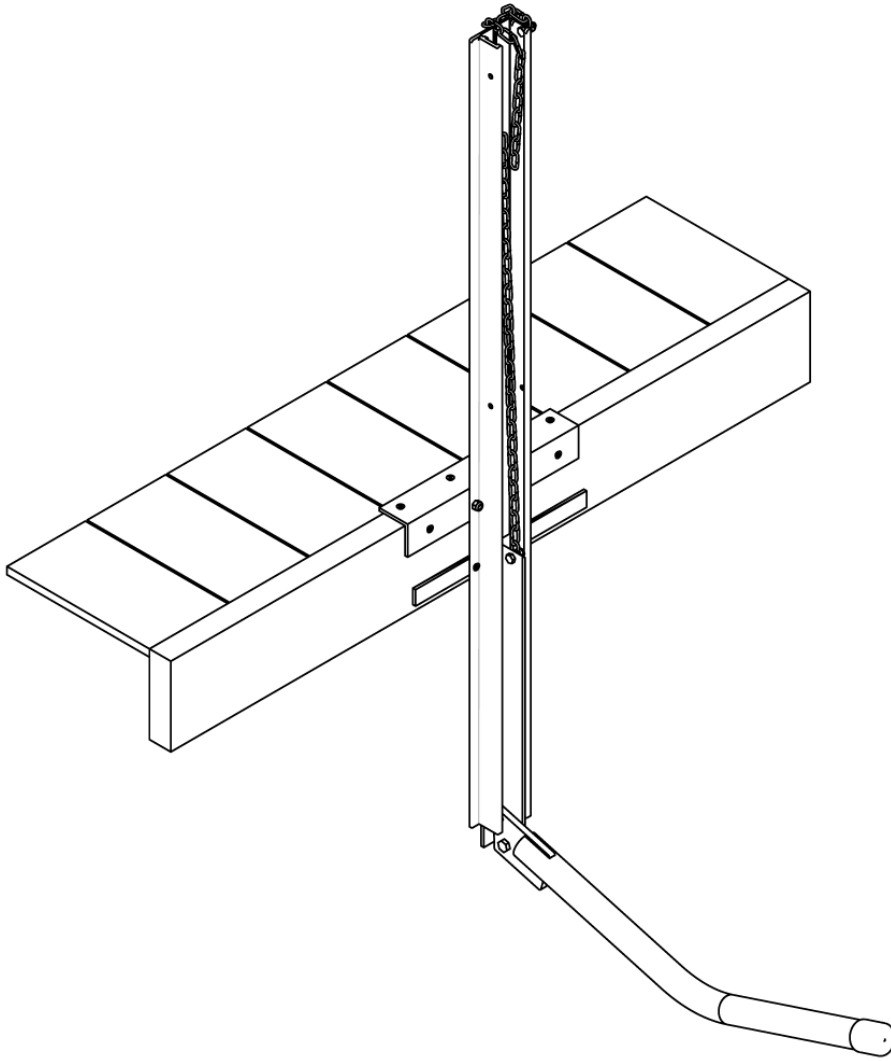

FIGURE 2
- Place the assembled KayaArm onto the edge of dock and fasten it to the dock using at least 2 deck screws (not provided) into the top surface of the angle (4). Fit the cedar shims into the approximately 1/4" space between the back of the mast and the vertical surface of the dock (see Figure 2) at a location directly behind the lower holes in the mast flanges. HINT: Push the tapered shims, simultaneously one from each side of the mast and one in front of the other, into the space behind the mast to a distance where this space is filled when the mast is vertical. Install 2 deck screws (not provided) into the lower flange holes. Optionally install more deck screws through additional holes provided in angle (4).
- The KayaArm mounted as above on a dock is functional to a water level about 30" below the top of the dock. For water levels below that you may attach the KayaArm to the side of a ladder with two bolts (not provided) through holes provided in the mast (1). See photo at <http://www.kayaarm.ca/manuals/KayaArmInstructions.pdf> and "ladder demo" at <http://www.kayaarm.ca/demovideos.php>